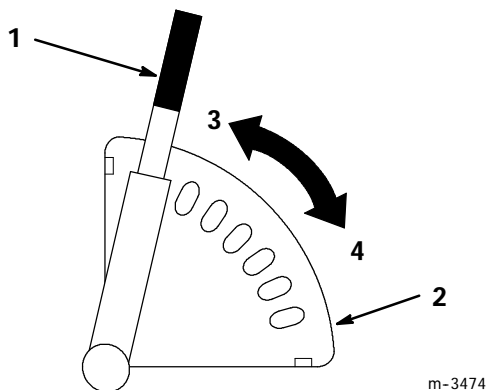

Figure 14
- 2. Pull the height-of-cut lever out to disengage it from the quadrant. Adjust the height of cut to the desired level. Release the lever inward to lock into the quadrant (Fig. 14).